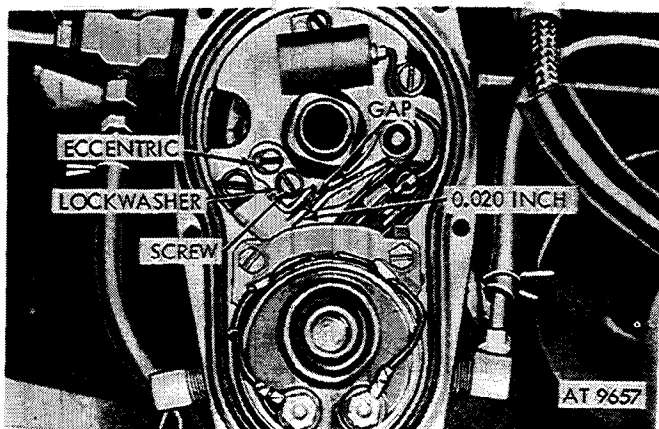

Figure 2-156. Adjust point gap.
(6) Install new coil assembly into distributor base and secure with lock tab and two screws. Route the filter capacitor wire and coil wire through the clamping ears and into the opening provided in the lock tab. Torque retaining screws to 40-50 lbs. inch. Position head of screw within the torque range so that one of the lock tabs can be bent up parallel again one the hex. head flats (fig. 2-156).
(1) Crank the engine until the rubbing block on movable breaker point rests on the peak of a cam lobe (fig. 2-156).
(2) Loosen stationary breaker point mounting screw and lockwasher (fig. 2-156).
(3) Adjust point gap with adjuster screw (fig. 2-156) until gap is 0.017 to 0.022 inch. Tighten contact mounting screw and lockwasher 5-20 lb. in.